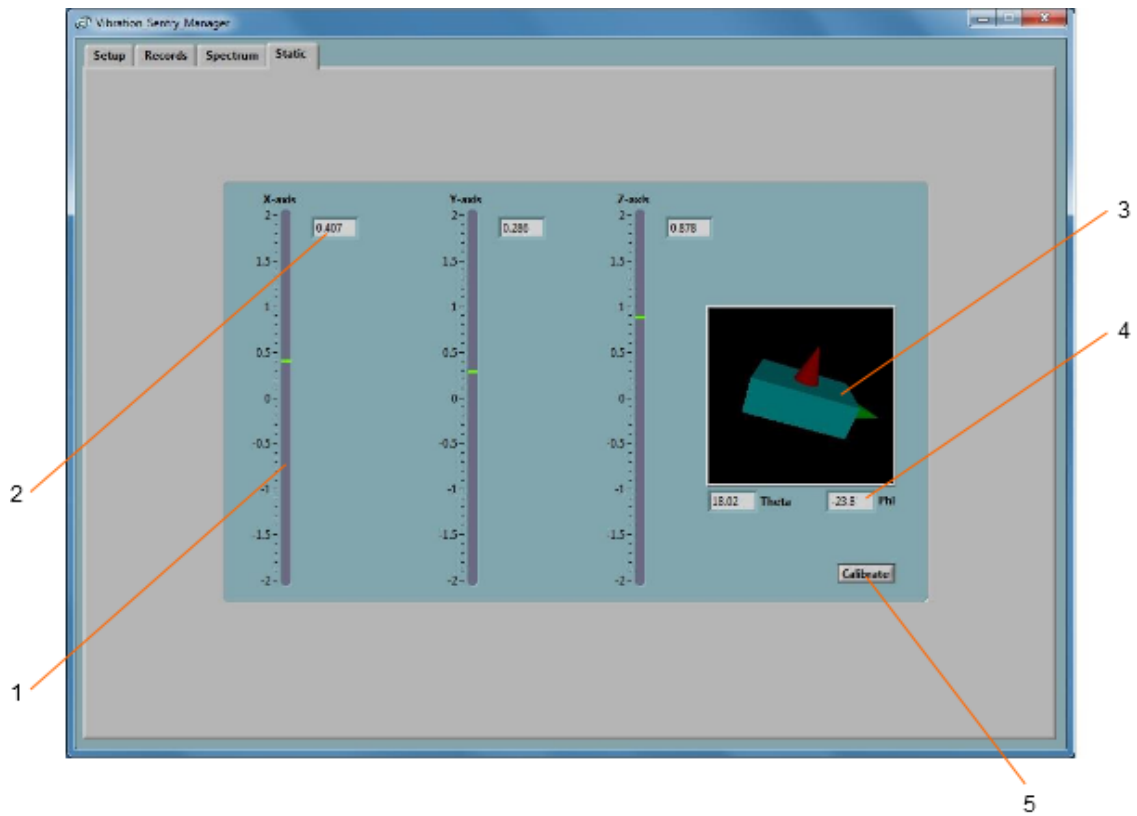

Figure 8 Static Tab
- **The Static Tab:** Is used to monitor the static accelerations along the three axes and optionally to launch the calibration procedure (see Figure 8).